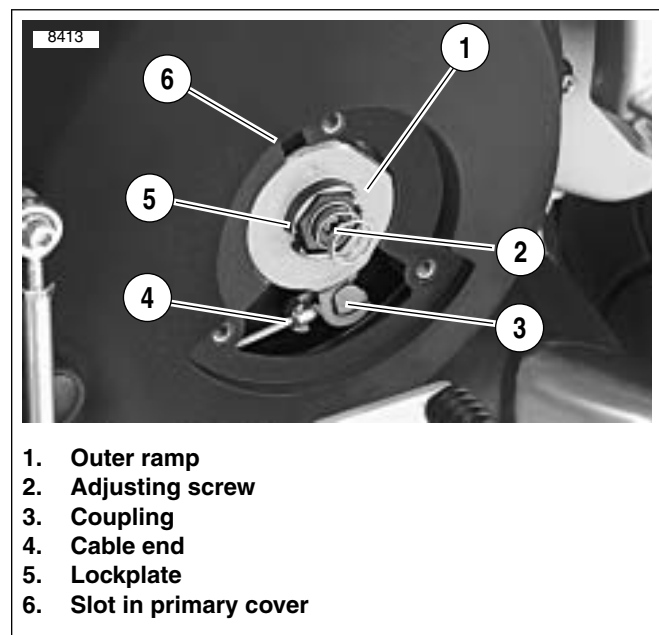

Figure 6-11. Nut and Outer Ramp
2. See Figure 6-11. Install ramp assembly.